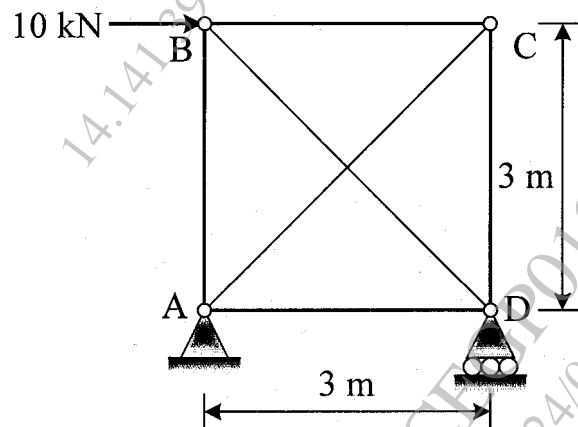

Fig. 4
- (b) Find forces in members of the truss as shown in Fig. 4. Cross-sectional area and material of all members is same : [6]